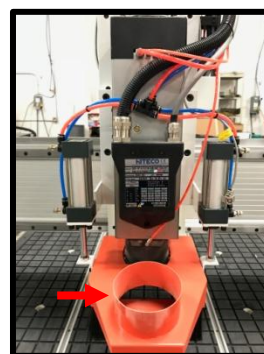

Figure 6
- Set up a dust collector with a 4" hose connected to the dust hood (figure 6).